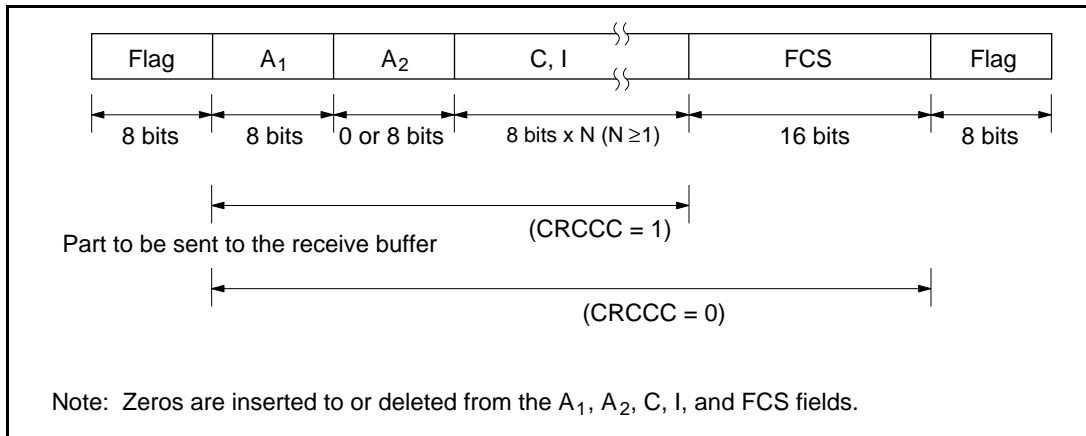

Figure 5.26 Message Format for Bit Synchronous Mode
The message format for bit synchronous mode is shown in figure 5.26. The address (A) and control and information (C and I) fields are configured in byte units and are sent to the receive buffer. Except the frame check sequence (FCS) field, data is transmitted or received beginning with the least significant bit. The FCS field data is transmitted and received beginning with the most significant bit.